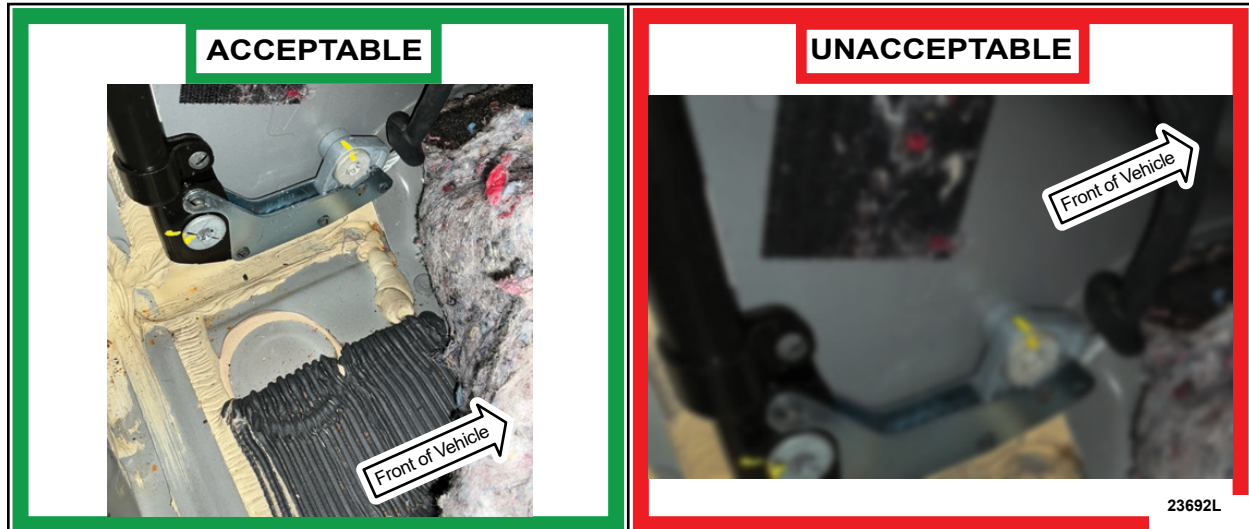

FIGURE 6
12. Capture a clear image of the front outboard seatbelt anchor and floor pan on both sides of the vehicle. See Figure 6.